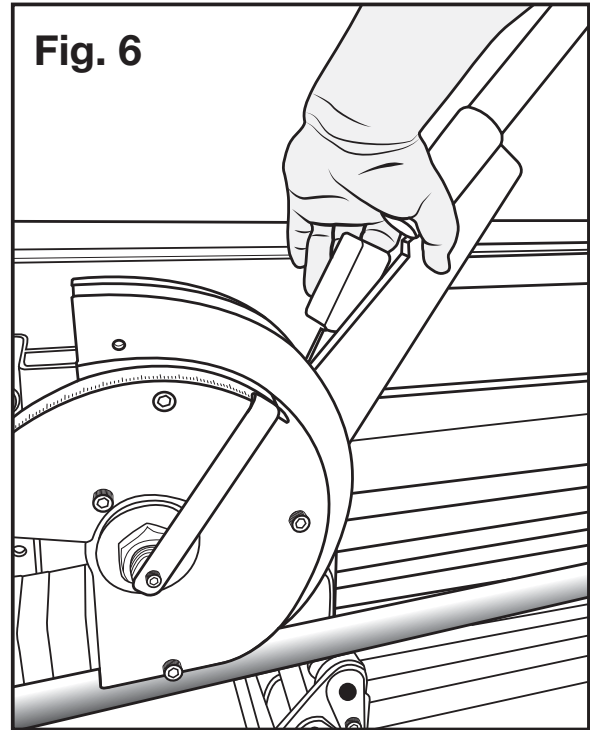

Fig. 6
- Utilize the ratcheting system to allow the operator to use body weight to increase bending force with minimal effort. To utilize this system, lift up on the ratchet release tab and lift the ratchet handle to lower to a suitable leverage point (**Fig. 6**).